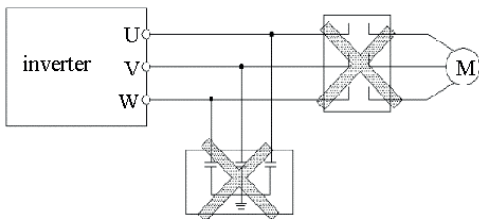

Fig.3-6 Forbid to use contactor and absorbing capacitor
05. Do not add absorbing capacitor or other resistance-capacitor absorbing device between inverter and motor; also do not add electromagnetic contact. If contactor and other switch component needed to add, please make sure inverter suspended without output, show as Fig.3-6